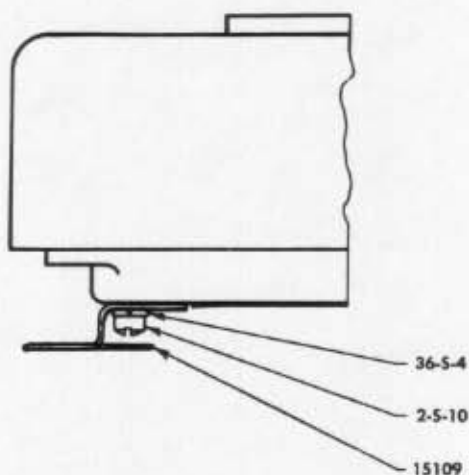

Figure 5-3
A. Reverse the above procedure. (CAUTION: Be sure cam slot is located on screw as shown in figure 5-3, 4).